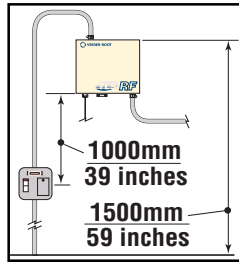

Fig. 1
1. Mount TLS-RF unit indoors on 4 holes separated vertically by 5.7 inches/ 145 mm and horizontally by 6.7 inches/170mm and using screws up to 0.187 inch/4.7mm diameter (dimensions shown in Fig. 1 are maximums).